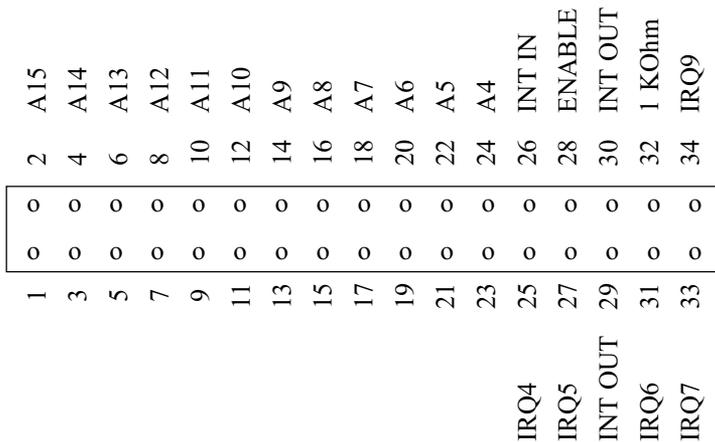

Figure 3. Jumper block JP1 configuration.
The card address is set by installing appropriate jumpers on JP1, pins 1 thru 24, as shown in Fig. 3. An uninstalled jumper for a given address bit sets the bit to 1 (true) and an installed jumper sets the bit equal to 0 (false). Addresses A4 thru A15 are jumper selectable for defining the *base address* of the card from 0000H to FFF0H on integral 10H boundaries, where H denotes a hexadecimal number. To assign a base address of 3040H, for example, install jumpers JP1-A4, JP1-A5, JP1-A7 thru JP1-A11, JP1-A14 and JP1-A15. Pins 25 thru 34 are used to configure the interrupt connections, if interrupts are used, as described in the Section II.C.
1) Pin 30 (INT OUT) is the composite interrupt signal from the analog converters (see circuit diagram in Appendix). This is jumpered to a single desired interrupt, IRQ4 thru IRQ9, of JP1 shown in Fig. 3. This connection causes the interrupt selected to be activated when a conversion is performed.